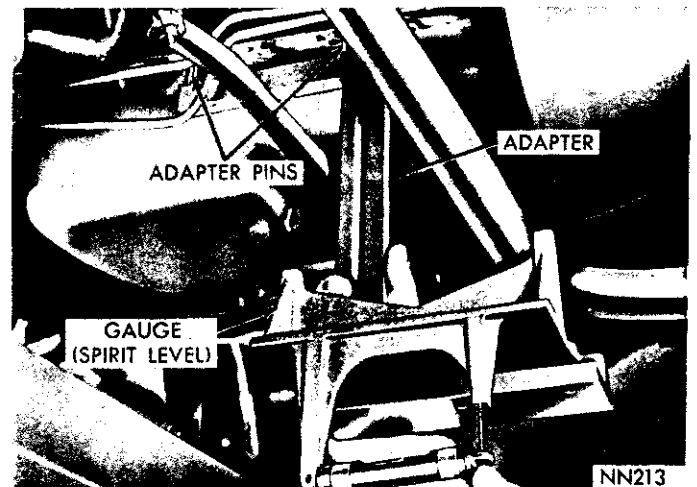

Fig. 5—Adjusting Gauge on Engine (Front Joint Angle References)
- (1) Attach engine adapter SP-5046 to gauge SP-5060.
- (2) Position gauge on left side of engine so that adapter pins contact flat surface of engine oil pan flange adjacent to the vertical wall of the oil pan (Fig. 5). On models equipped with six cylinder engines, use right side of the engine. The gauge must be held vertical as shown with arrow on gauge SP-5060 pointing toward the front of car.